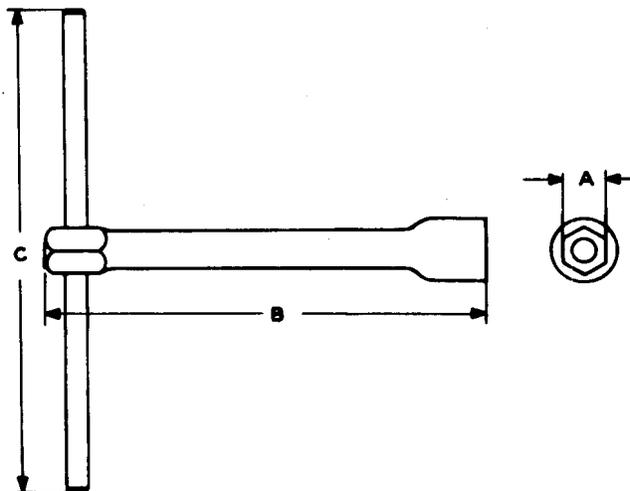

Fig. 14—Tee-Handle, Hex Socket Wrench
2.16 Tee-Handle Hex, Socket Wrenches: The tee-handle hex, socket wrenches (Fig. 14) are furnished by three suppliers, as listed.